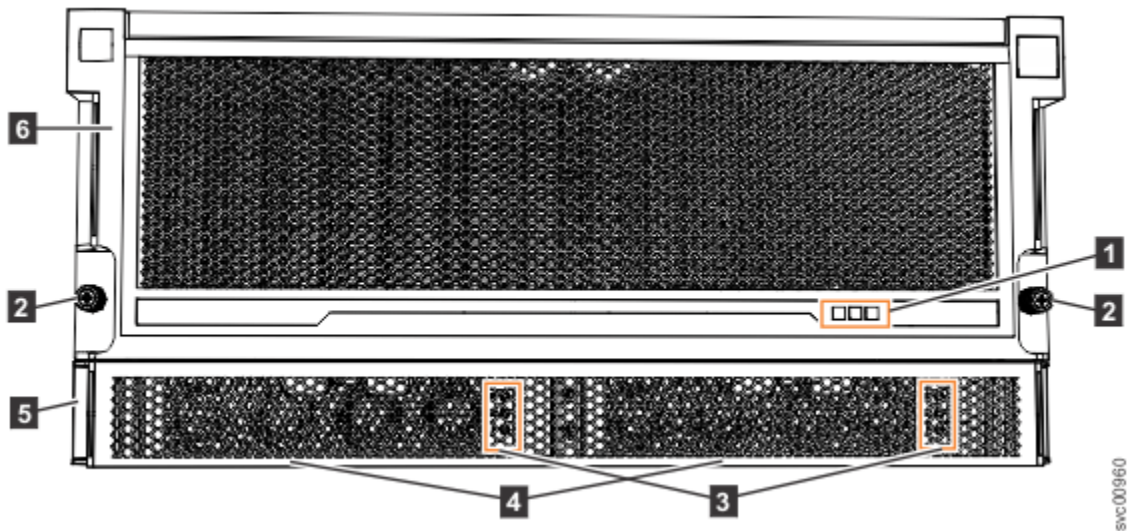
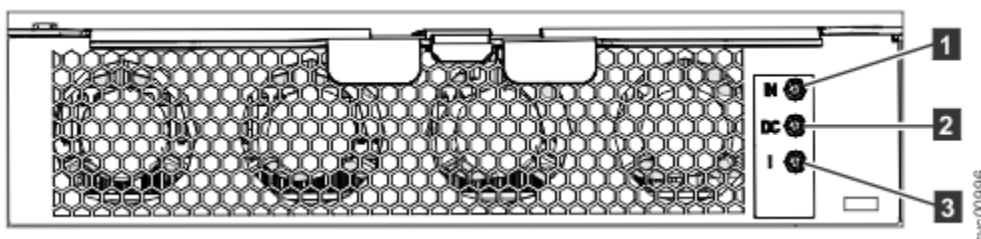

Figure 130. LEDs on the front of the expansion enclosure
Figure 131. LEDs on the front of a power supply unit
As Figure 130 on page 115 shows, the front of the 2076-92F expansion enclosure contains LEDs for the display panel (1) and for each of the power supply units (3).
The 2076-92F expansion enclosure contains two PSUs (4 in Figure 130 on page 115) that are accessible from the front of the enclosure. Each PSU has its own a set of LEDs, as shown in Figure 131 on page 116.